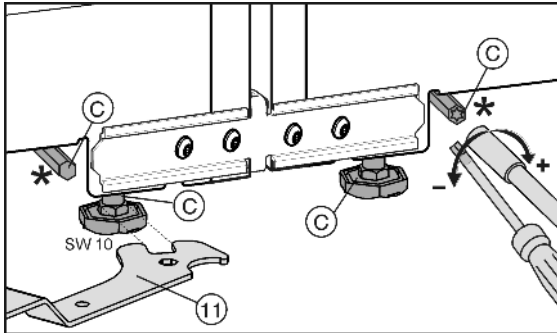

Fig. 8
You can adjust the front height-adjustable feet with the opened spanner Fig. 8 (11) included in the supply package, and the rear height-adjustable feet\* with a Torx® 25 screwdriver.